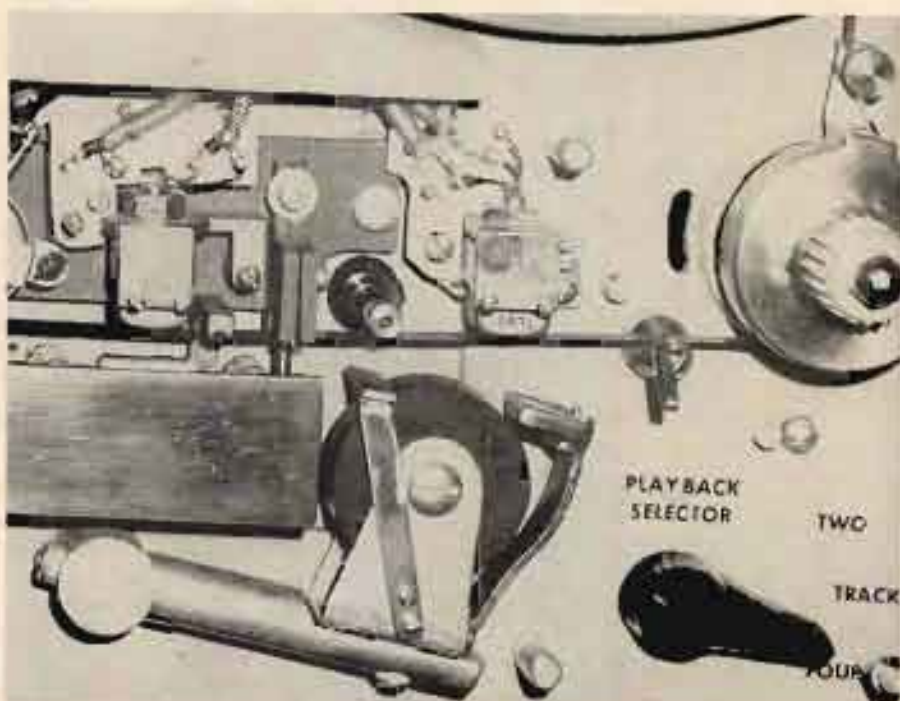

Fig. 8. Detail near capstan motor.
to backward resistance. Figure 8 shows actual photographs of the stereo multiplex signals at various stages of the signal generator.
Fig. 8. (A) Left input signal; (B) left signal at switch; (C) left signal at output; (D) 1000-cps right signal, no pilot carrier; (E) 1000-cps right signal plus 60-cps left signal; (F) 1000-cps right signal plus 60-cps left signal, equal amplitudes; (G) same signal as in (F) with 19-kc pilot added; (H) same signal as in (G) with SCA signal added.